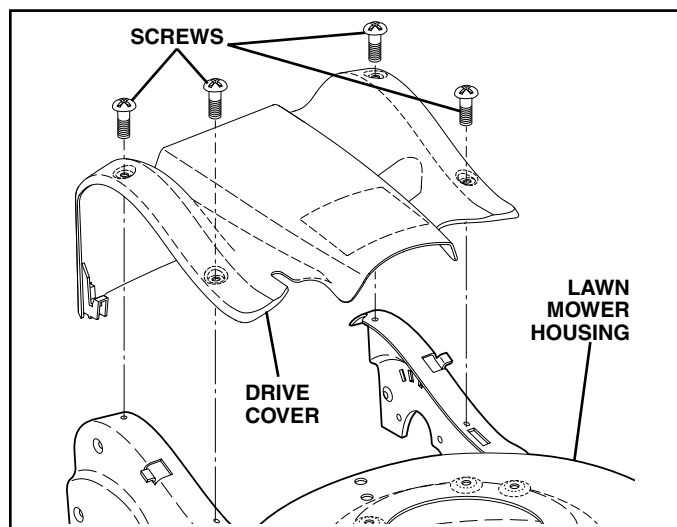

FIG. 18
TO REMOVE DRIVE BELT (See Figs. 18–20)
2. Remove screws retaining drive cover and remove drive cover from lawn mower housing (See Fig. 18).
TO REPLACE DRIVE BELT (See Figs. 18–21)
11. Reattach drive cover with screws previously removed (See Fig. 18).